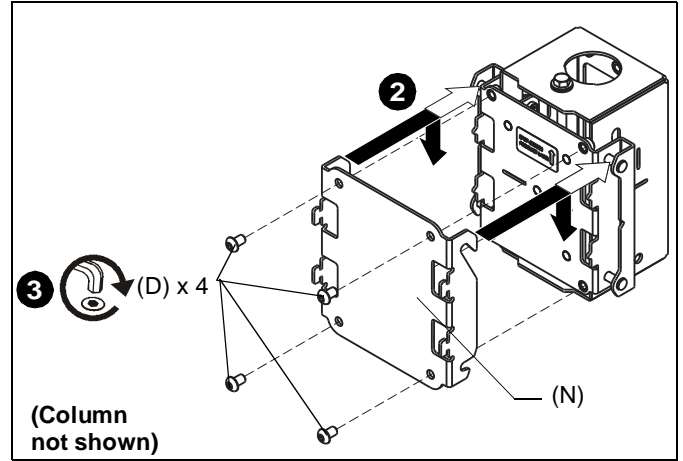

Figure 6
2. Lift the mounting rail with the hook plate up to the ceiling head (K or L). (See Figure 6)
3. Attach hook plate (N) with mounting rail to ceiling head (K or L) using four 5/16 x 1/2" button head cap screws (D). (See Figure 6)